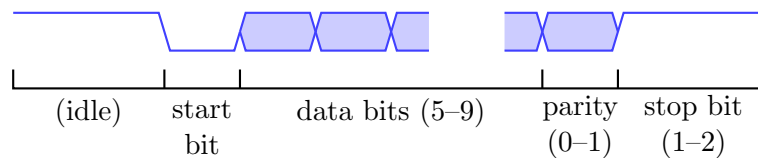

Figure 1: Typical UART frame
- With one transmit and one receive line, data is sent one bit at a time. Figure 1 shows a typical UART frame.